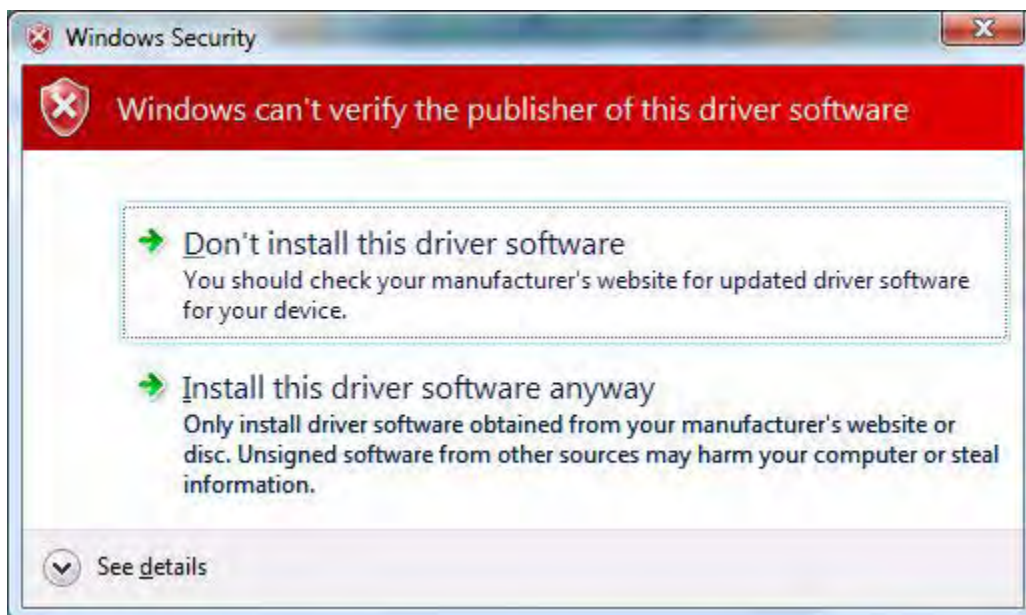

Figure 4. Can't Verify Publisher Dialog, Windows Vista
4. When Windows prompts you whether to install or not install, as shown in Figure 4, click **Install this driver software anyway** and wait until the installation is completed (Windows may prompt you more than once).